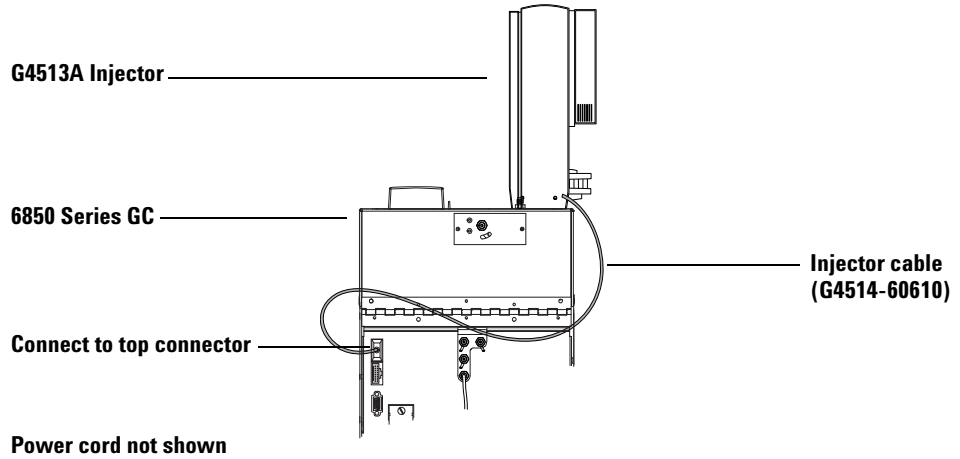

Figure 19 Cable for 6850 Series GC
- 1 Connect the injector(s) to the controller with a G4514-60610 cable. Use the top injector connection on the back of the GC. See Figure 19.